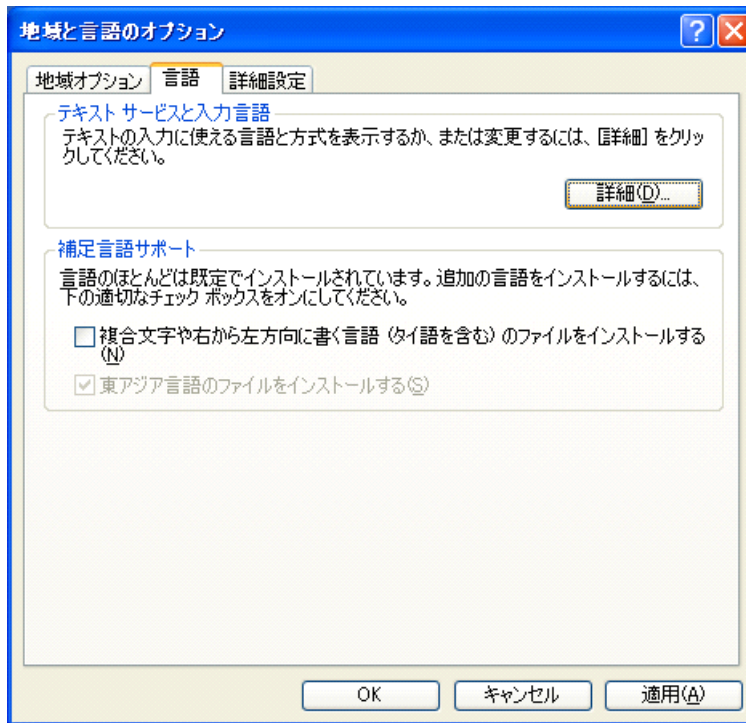

Figure 9-7 The Language tab
3. In the **Regional and Language Options** dialog box (see Figure 9-7 on page 442):